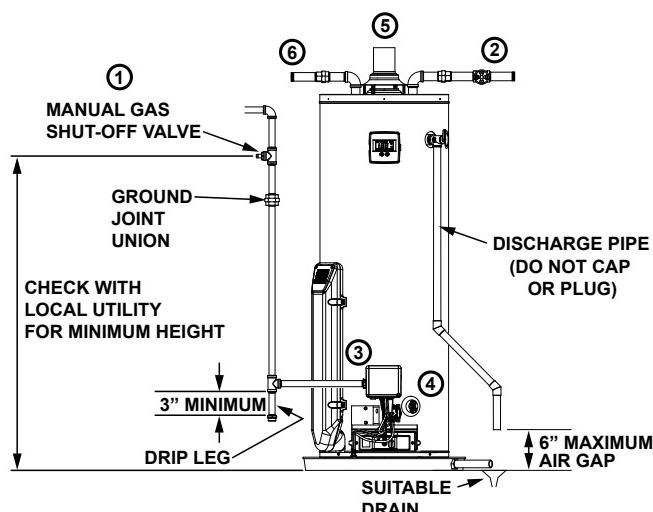

FIGURE 2.
If the main gas line shutoff valve serving all gas appliances is used, also shut "OFF" the gas at each appliance. Leave all gas appliances shut "OFF" until the water heater installation is completed. See Figures 2 and 3.
- ② Open a nearby hot water faucet until the water is no longer hot. When the water has cooled, turn "OFF" the water supply to the water heater at the water shut off valve or water meter. Some installations require that the water be turned off to the entire house. See Figures 2 and 4.
Attach a hose to the water heater drain valve and put the other end in a floor drain or outdoors. (See Figures 2 and 5.) Open the water heater drain valve.